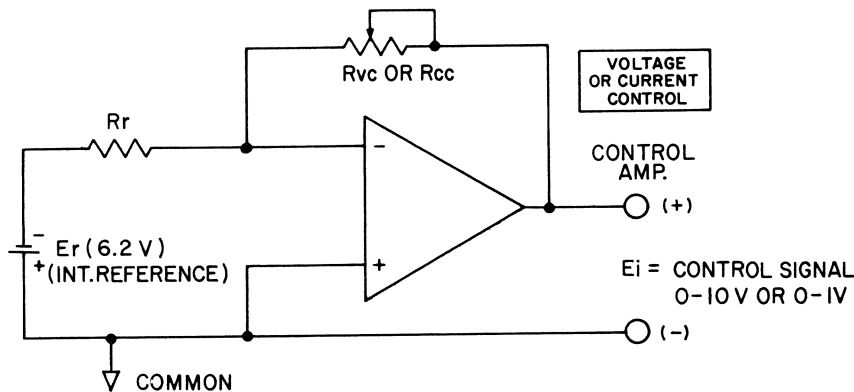

FIG. 4-4 GENERATION OF THE INTERNAL CONTROL SIGNAL FOR THE ATE VOLTAGE AND CURRENT CHANNELS.
- 4-8 The internal feedback components in the voltage, as well as in the current control channel of the ATE are selected for each ATE model such that a 0 to 10 volt d-c signal, applied to the VOLTAGE COMPARISON AMPL. or 0-1 volt to the CURRENT COMPARISON AMPL. control the full output range for each ATE model. For local (front panel) control of the ATE output quantities a CONTROL AMPLIFIER is used in a similar manner for the voltage as well as for the current channel. (See FIG. 4-4) to produce the required 0-10V or 0-1V control signal.
- 4-9 To produce the internal 0–10V or 0–1V control signals (E_i), an operational amplifier is used in the inverting configuration as shown in FIG. 4-4. The output equation for the circuit is $E_i = E_r (R_{VC}/R_r)$.